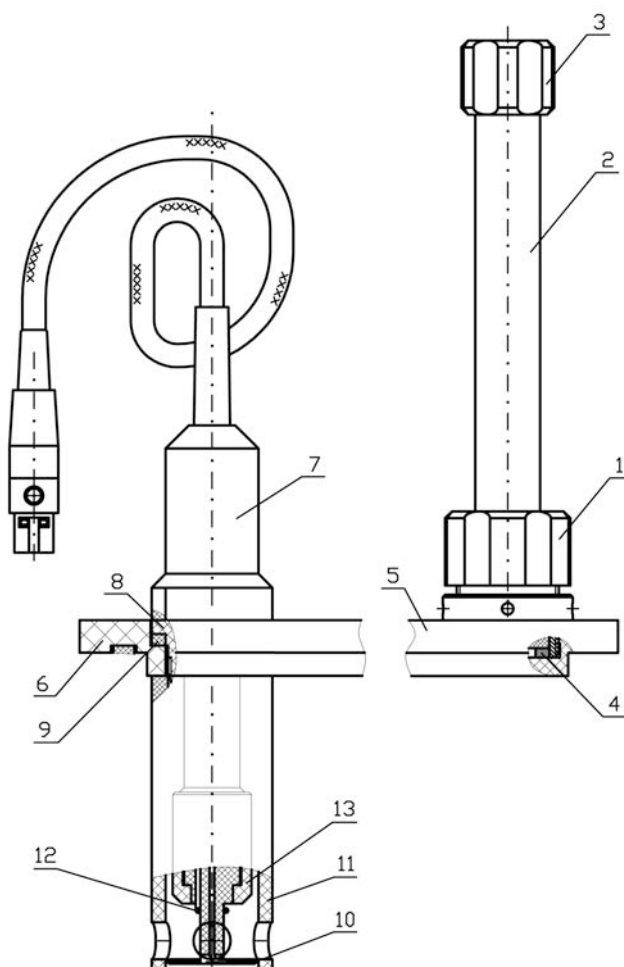

Figure 24
If the cell drift is kept on a very high level fill the desiccant tube with fresh molecular sieves. In order to replace molecular sieves unscrew a cap (pos. 1) Figure 24, take out a tube (pos. 2) together with caps (pos. 1 and 3). Do not take out the O-ring (pos. 4). Take off a cap (pos. 3) from the tube and take out used molecular sieves. Clean and blow out the tube. Clean and blow out the cap (pos. 3). Fill the tube with fresh molecular sieves. Assemble the unit in the same way. The cap (pos. 1) has to be tightened firmly to ensure a hermeticity of joint.